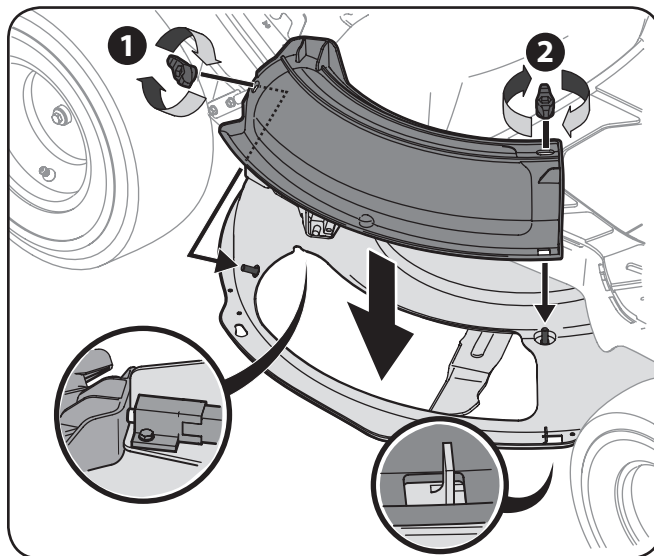

Figure 3-9
- Install the mulch plug into the deck discharge opening on the deck. The studs on the deck surface will fit through the holes on the upper portion of the mulch plug. The small tab on the deck lip area will fit through the square cutout on the lower portion of the mulch plug. See Figure 3-9.